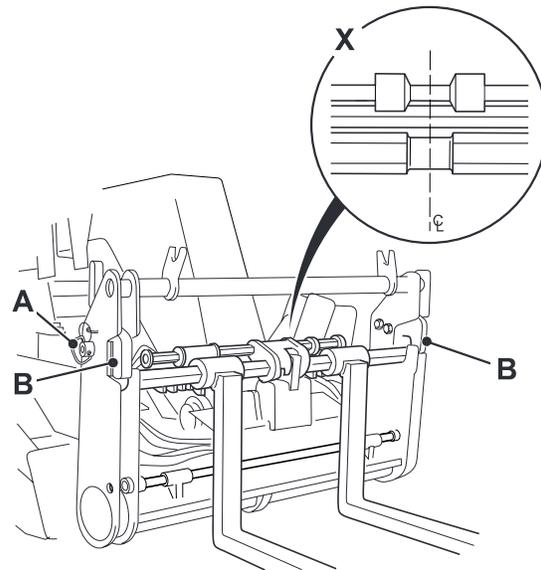

Fig 340.
- 6 Align the sections of the Sideshift attachment centrally as shown at X. → Fig 340. (□ 336).
- 4 Remove the lock rings and withdraw locking pins **A** at both sides of the carriage. → Fig 340. (□ 336).